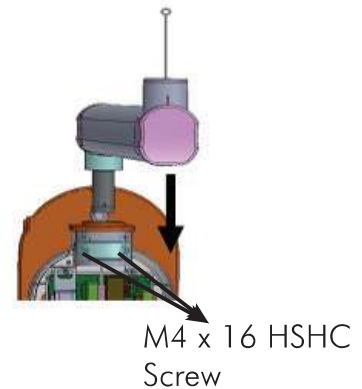

Figure 81
- Route the guide wire and ground wire (Straight) through the slot of Bearing Block and mount the Straight Arm on the Base unit Bearing Block (Ensure free movement of Friction Clamp while inserting Straight arm) and then tighten 2 no's of M4 x 16 HSHC Screws at the location shown in Figure 81 by using 3mm Allen key. Check and confirm the level of the straight-arm using spirit level by rotating to all directions as shown in Figure 82 .